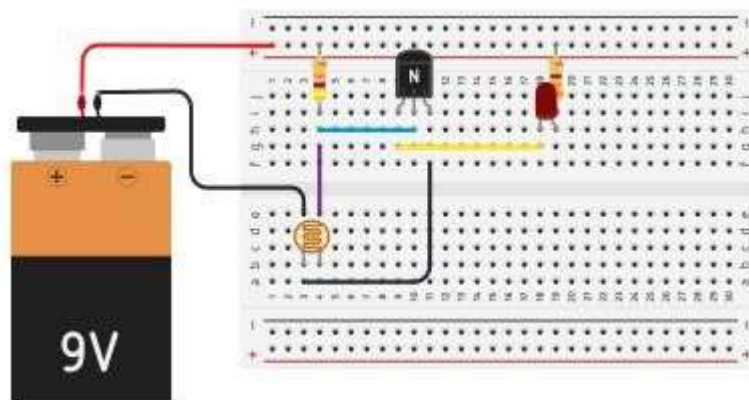

Fig.2 Tinkercad Connection Diagram
1. Identify the terminals of transistor as shown in the fig.2.